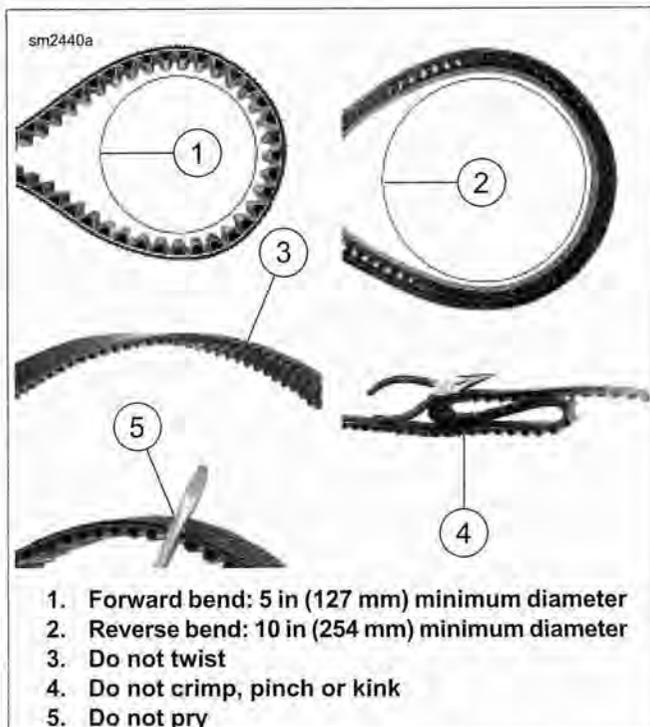

Figure 5-42. Proper Drive Belt Handling
1. See Figure 5-42. Install belt onto sprockets.